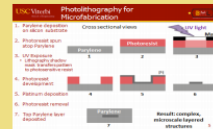

Figure 5: Step-by-step process of photolithography. The alignment step was noted as the most difficult step. Photo credit: Ahuva Weltman
- Probes were microfabricated by using photolithographic techniques. (Fig. 5)